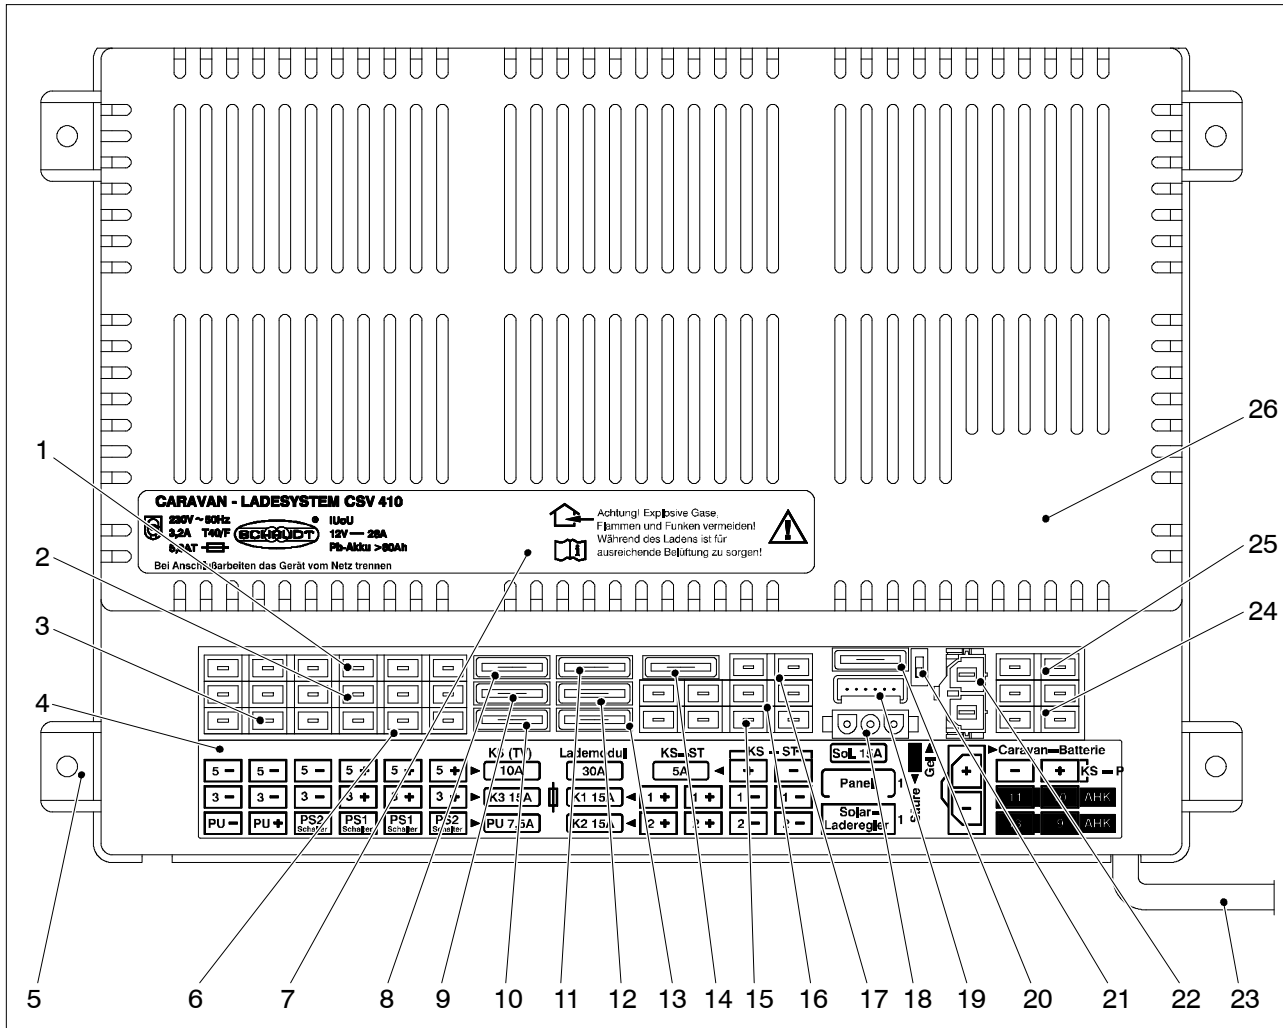

Fig. 2 Front view of CSV 410 caravan charging system
- Ensure that the battery selector switch (Fig. 2, Pos. 21) is set to the correct position for the battery installed.
- Move the battery selector switch (Fig. 2, Pos. 21) to the correct position using a thin object (e.g. a ballpoint pen):